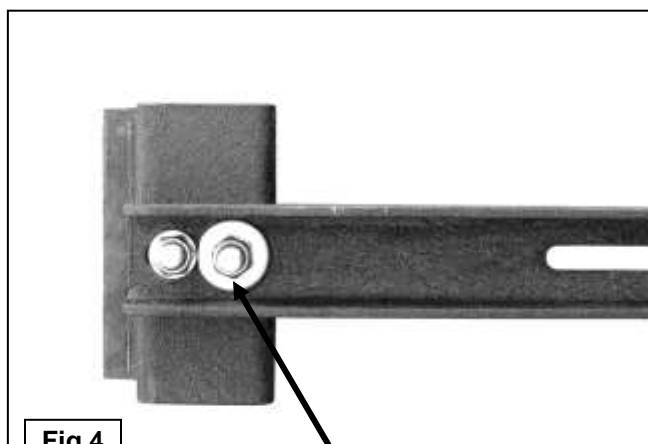
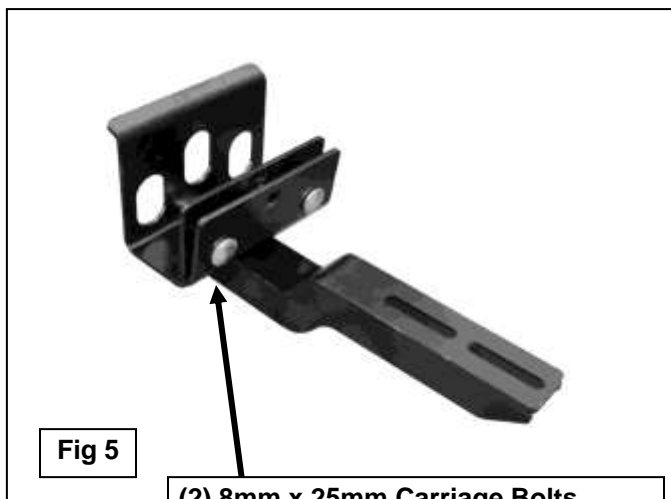

**Fig 3A**
**Fig 3B**
3. Select the driver side front Support Bracket, **(Figure 3A)**. Bolt the Support Bracket to the back of the front Bracket with (1) 10mm x 30mm Hex Bolt, (2) 10mm x 20mm STD Flat Washers, (1) 10mm Lock Washer and (1) 10mm Hex Nut, **(Figure 3B)**. Line up the mounting tab on the Support Bracket with the back of the pinch weld. Do not tighten hardware at this time.